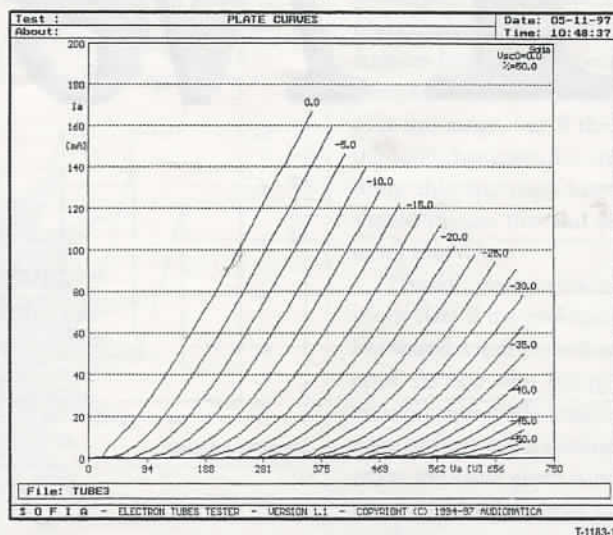

FIGURE 1: Plate curves for the 6550 and 2A3 tubes.
I produced several sets of data for a 6550 and for a 2A3 tube. The curves are nicely presented on the CRT (*Fig. 1*). The print format is well managed in the software; a very nice curve set can be generated on a dot matrix printer. I did not
At the conclusion of this cycle, the data is plotted on the CRT (the results are shown in *Fig. 1*). After the plate curves are plotted, you may use the cursor to select any point on the performance map to read plate voltage, plate current, power, grid-plate transconductance, dynamic plate (AC) resistance, and the amplification factor. The power and mu values shown appear to be simply the product of the other measured and/or calculated parameters, and not the result of direct measurements.